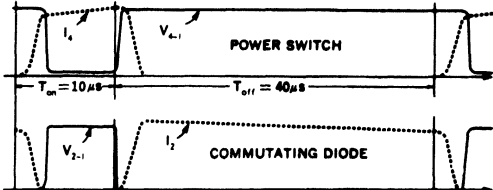

Figure 2. SM600, 601, 602 Switching Waveforms
- In switching an inductive load, the current will lead the voltage on turn-on and lag the voltage on turn-off (see Figure 2). Therefore, Voltage Delay Time (t_{DV}) $\cong t_{di} + t_r$ and Current Storage Time (t_{sj}) $\cong t_{fv} + t_{fi}$.
- As can be seen from the switching waveforms shown in Figure 2, no reverse or forward recovery spike is generated by the commutating diode during switching! This reduces self-generated noise, so no current spike is fed through the switching regulator. It also improves efficiency and reliability, since the power only carries current during turn-on.